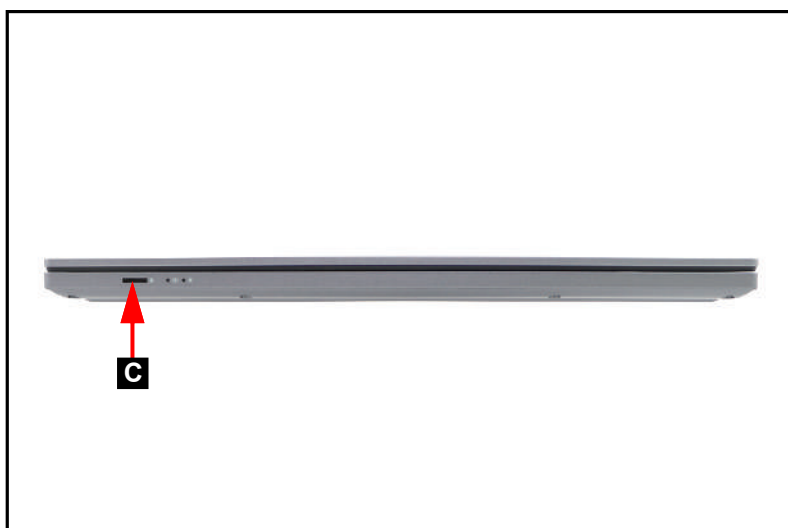

Figure 3-2. microSD Card Removal
4. Remove the microSD card from the microSD card slot (C) (Figure 3-2).